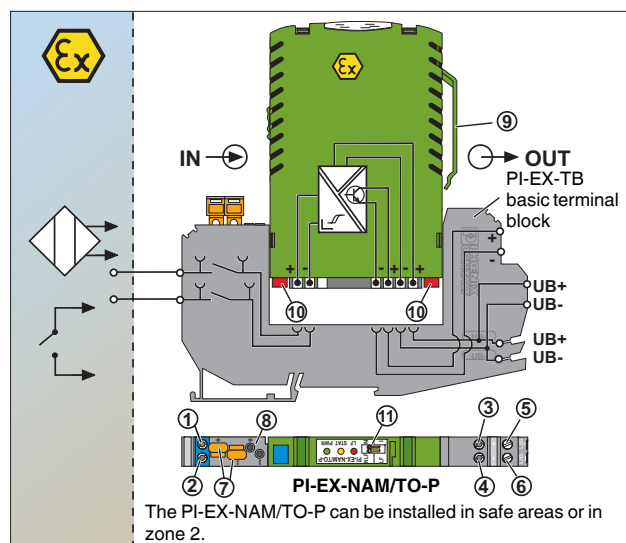

Figure 1 Structure
The base element is not keyed by default upon delivery. The user-friendly keying is located in the electronic module and consists of four plastic parts, which are joined together. When the electronic module is first removed, the lower part of the keying pins (⑩ in Figure 1 on page 6) remains in the base element. In this way, it is automatically keyed to the relevant electronic module.